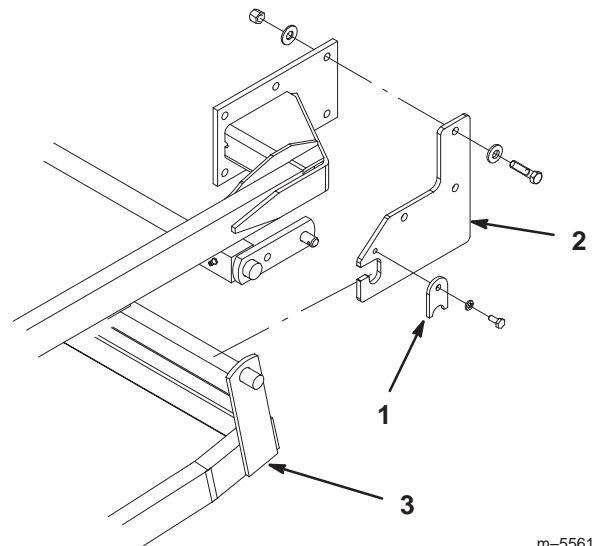

Figure 17
4. Remove the blade retainer plates from the support plates and unhook the blade assembly (Fig. 17). Do not remove the support plates.